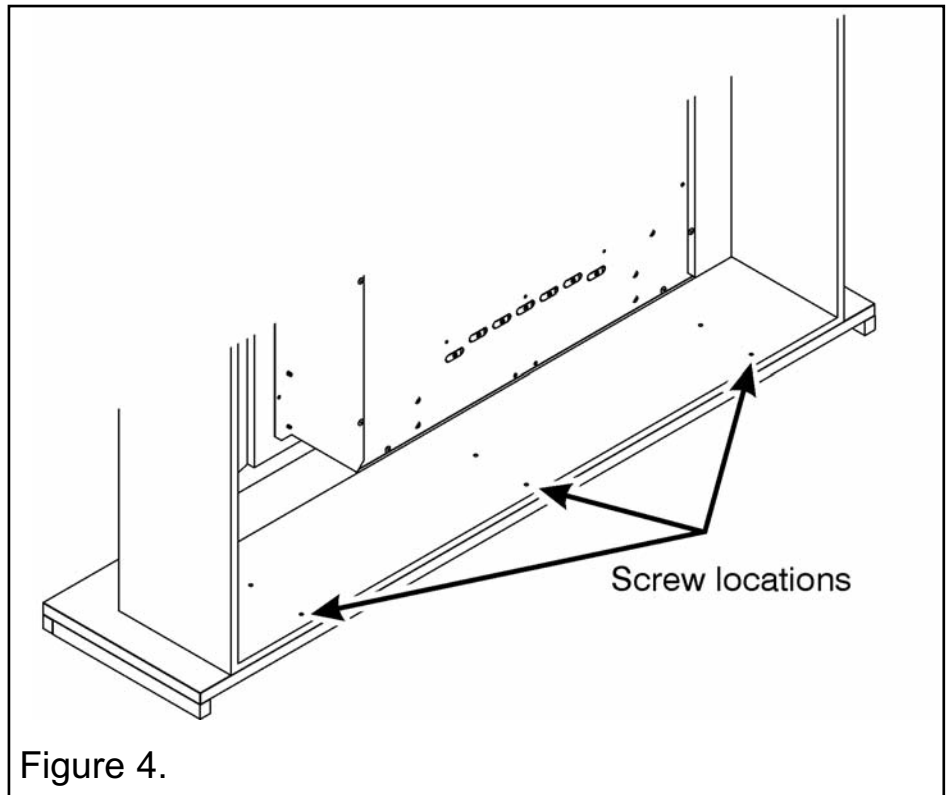

Figure 4.
1. The surround has six holes in its base. The top surface of the plinth has six pilot holes. Place the surround onto the plinth ensuring that the six holes are in line. Secure the surround to the plinth using six screws supplied (See figure 4).